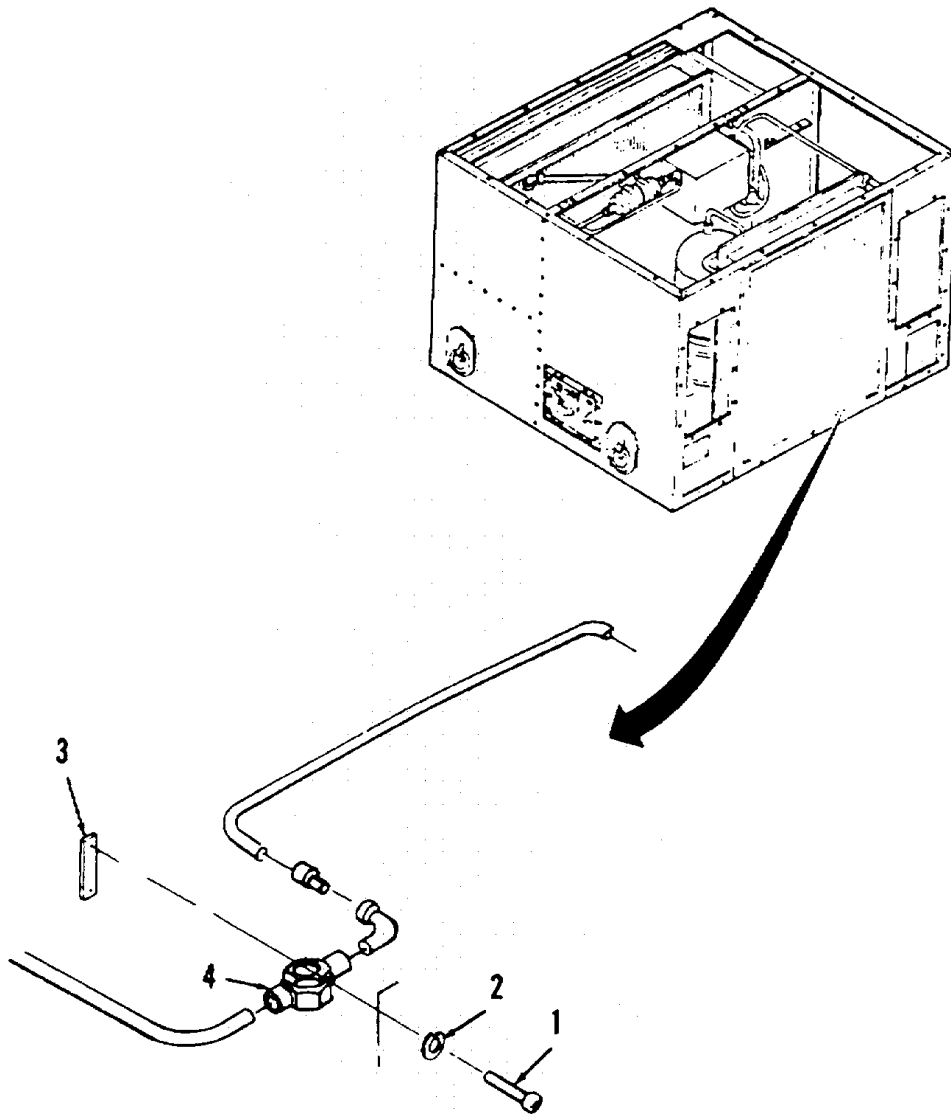

Figure 4-21. Liquid Sight Indicator (Sight Glass).
**a. Removal.** (Refer to Figure 4-21).
- (1) Remove two screws (1), two lock washers (2) and mounting plate (3).
- (2) Remove liquid sight indicator (4) from unit.